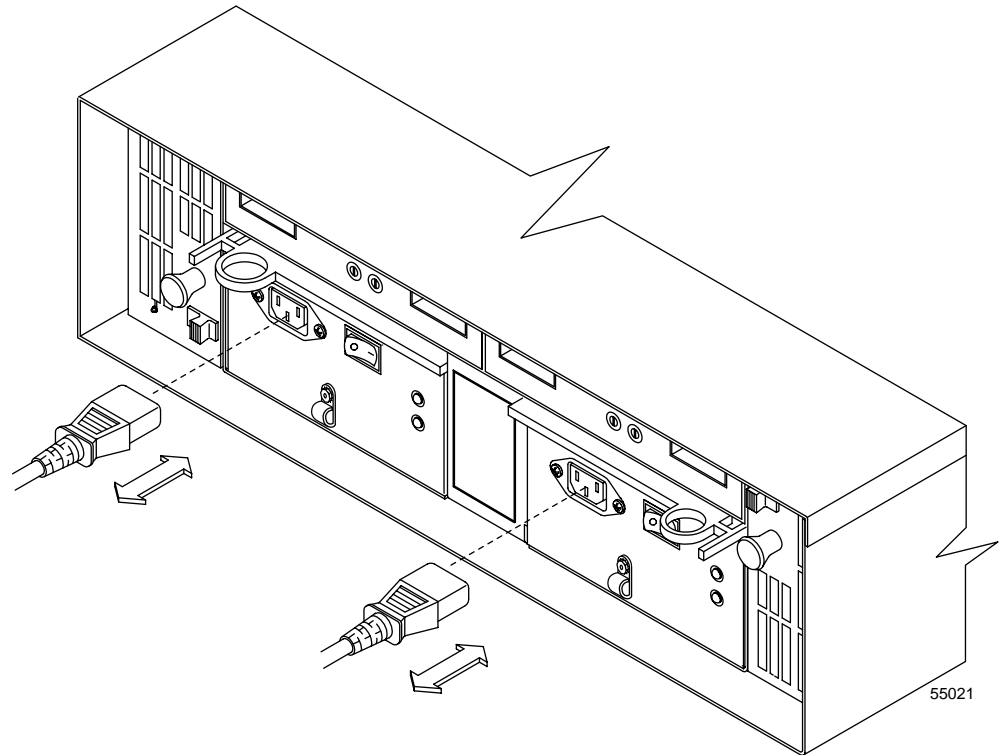

Figure 8-15 Connecting the Power Cords to the Drive Enclosure
5. Plug the drive enclosure power cords into each power supply in the drive enclosures (see Figure 8-15).